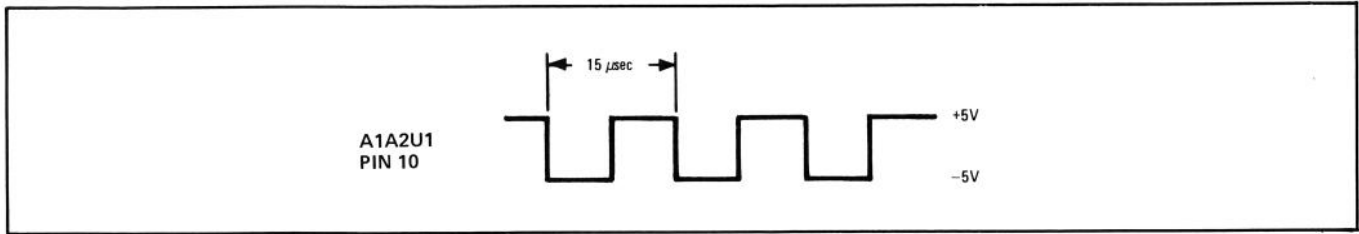

FIGURE 8-7. A1A2U1 CLOCK
To check the digit displays, jumper A1A2TP2 (LT) to ground. All segments of all four numeric displays (A2DS1 through A2DS4) should light. To troubleshoot DPM Driver A1A2, check for proper clock and outputs at A1A2U1 (see Figures 8-7, 8-8, and 8-9, and Table 8-2).